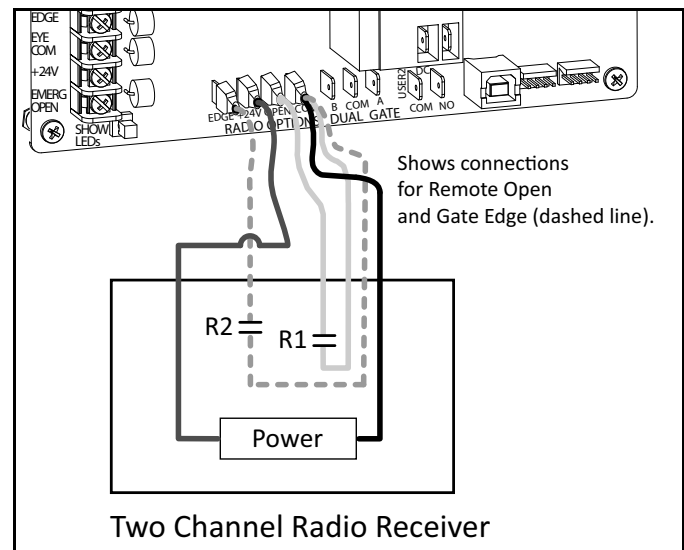

Figure 6-1.
2. Knock out the closest hole in the bottom of the control box and route the wires to the area marked RADIO OPTIONS. Only three wire connections are needed because the common wire and one radio output wire are connected together. Figure 6-1 shows additional wires from a two channel receiver.